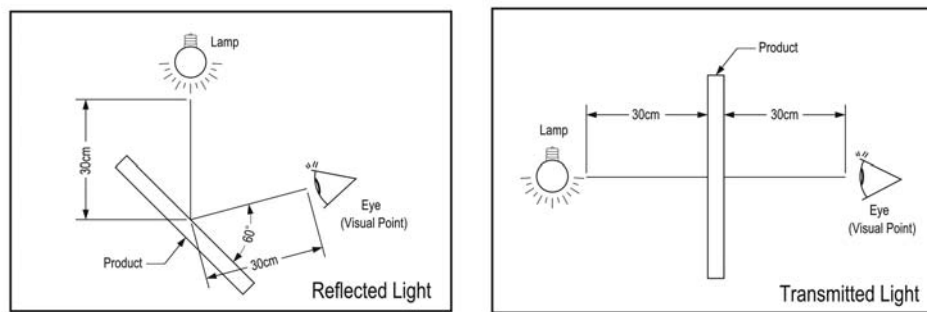

Figure 11-1
- (1) The flaws and impurities are allowed outside viewing area except for those affecting electrical functions.
- (2) The inspection was performed with one 17W fluorescent lamp lighting from back or side. The panel was placed 30cm away from eyes. (Figure 11-1)